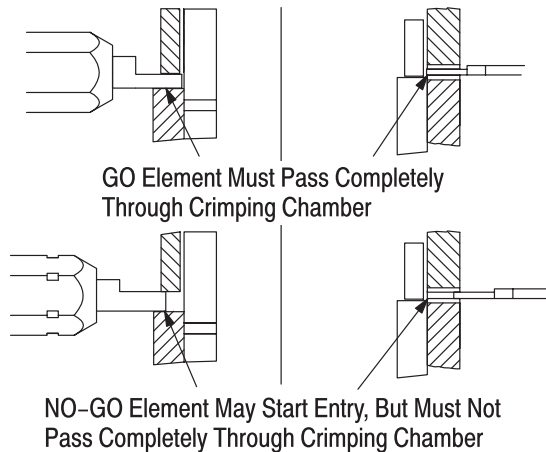

Figure 5
This inspection requires the use of plug gages conforming to the dimensions provided in Figure 5. Tyco Electronics does not manufacture or market these gages. To gage the crimping chamber, proceed as follows:
The GO element must pass completely through the crimping chamber. See Figure 5.
4. Align the NO-GO element and try to insert it straight into the same crimping chamber. The NO-GO element may start entry, but must not pass completely through the crimping chamber. See Figure 5.